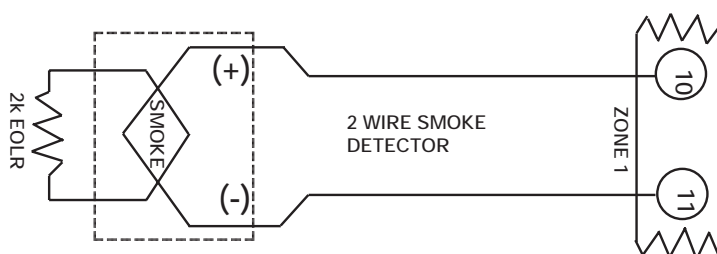

Figure 10: 2-Wire Smoke Detector Connected to Zone 1
1. Connect 2-wire smoke detectors across zone 1 terminals (10 & 11) as shown in *Figure 10*. Observe proper polarity when connecting the detectors.